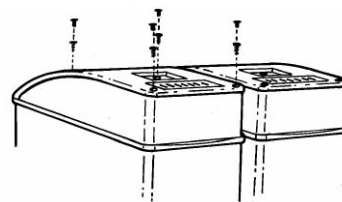

FIGURE 4
- B. Remove the 4 hole plugs over the front (2) screws middle (near rocker switch) and back screws then remove these 4 screws with a Phillips head screwdriver. Remove the black top part of the cover from the clear plastic base (see Figure 4.)